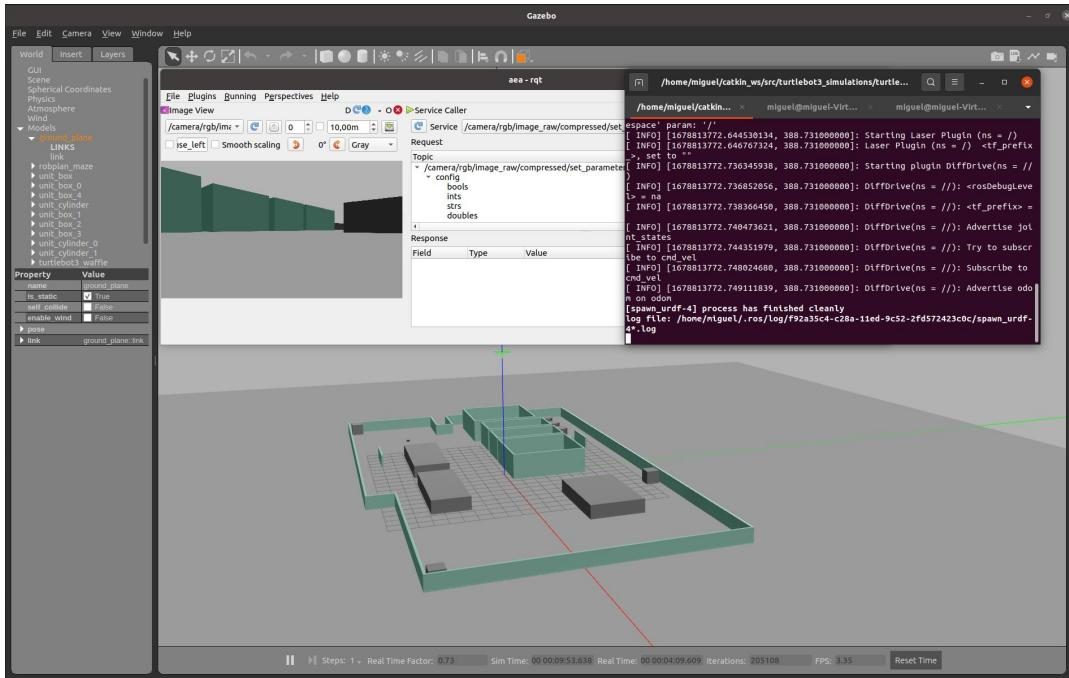

Figure 9: Snapshot of ROS environment during mission execution
The resulting map, should be something like show in Fig. 9.
Hint: An snapshot or a video of the mission executing in presented in Fig. 9.
11.c Map for experiments: The map will be a small scenario with static obstacles in a room located at Department of Engineering Cybernetics - NTNU, resembling the Gazebo environment shown in Fig. 9.